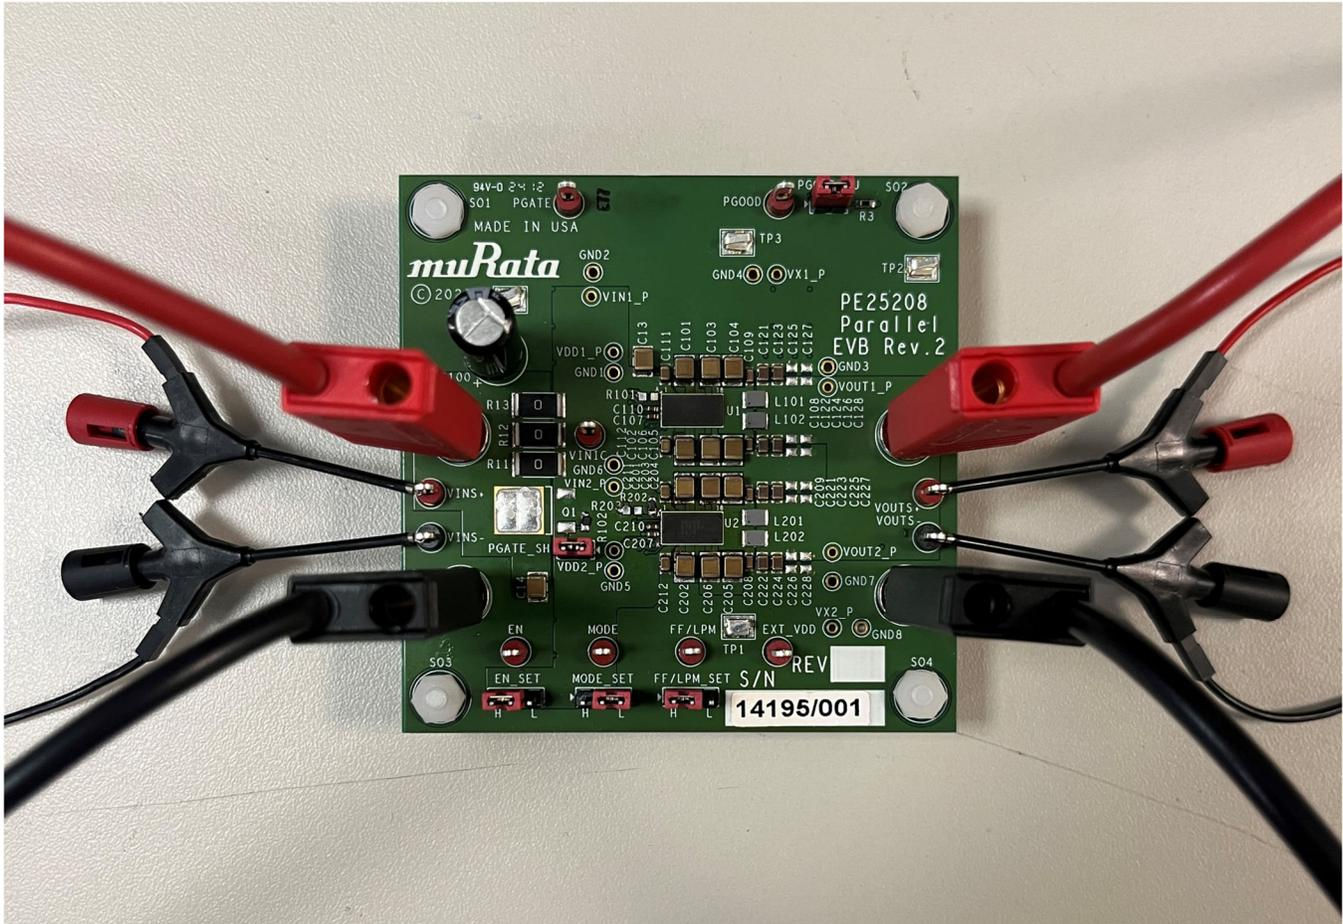
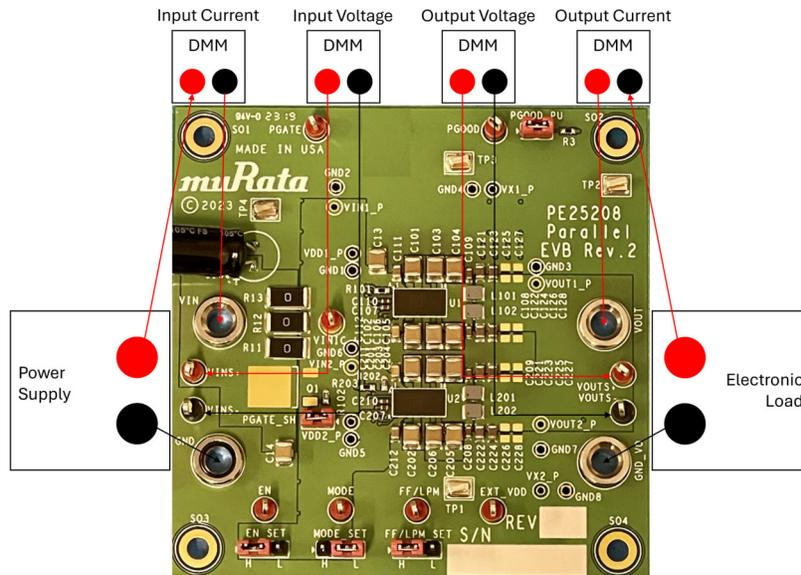

Figure 5. PE25208 Parallel EVK Connection to the Power and Sense Leads
Figure 7. PE25208 Parallel EVK Connections to Equipment for Voltage and Current Measurements
Connect the DC and power sense leads to the PE25208 parallel EVK as shown in Figure 5.
To take both voltage and current measurements, connect the parallel EVK to the equipment as shown in Figure 7.
4. Connect the DC power and sense leads to the parallel EVK as shown in Figure 5, and with the power equipment turned off, connect the parallel EVK to the power and measuring equipment as shown in Figure 7. Minimize the length of the connections.